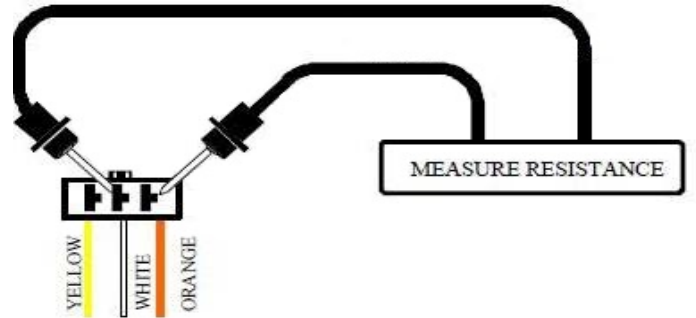
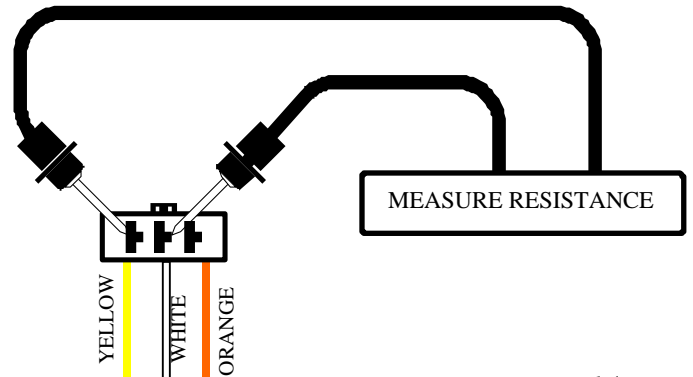

Figure 26. Connector 14
Figure 27. Connector 14
13. Insert the multimeter probes into the throttle pot connector (14) at the orange wire and the white wire. **See figure 26.** Note the resistance reading. Insert the multimeter probes into the throttle pot connector (14) at the yellow wire and the white wire. **See figure 27.** Note the resistance reading.